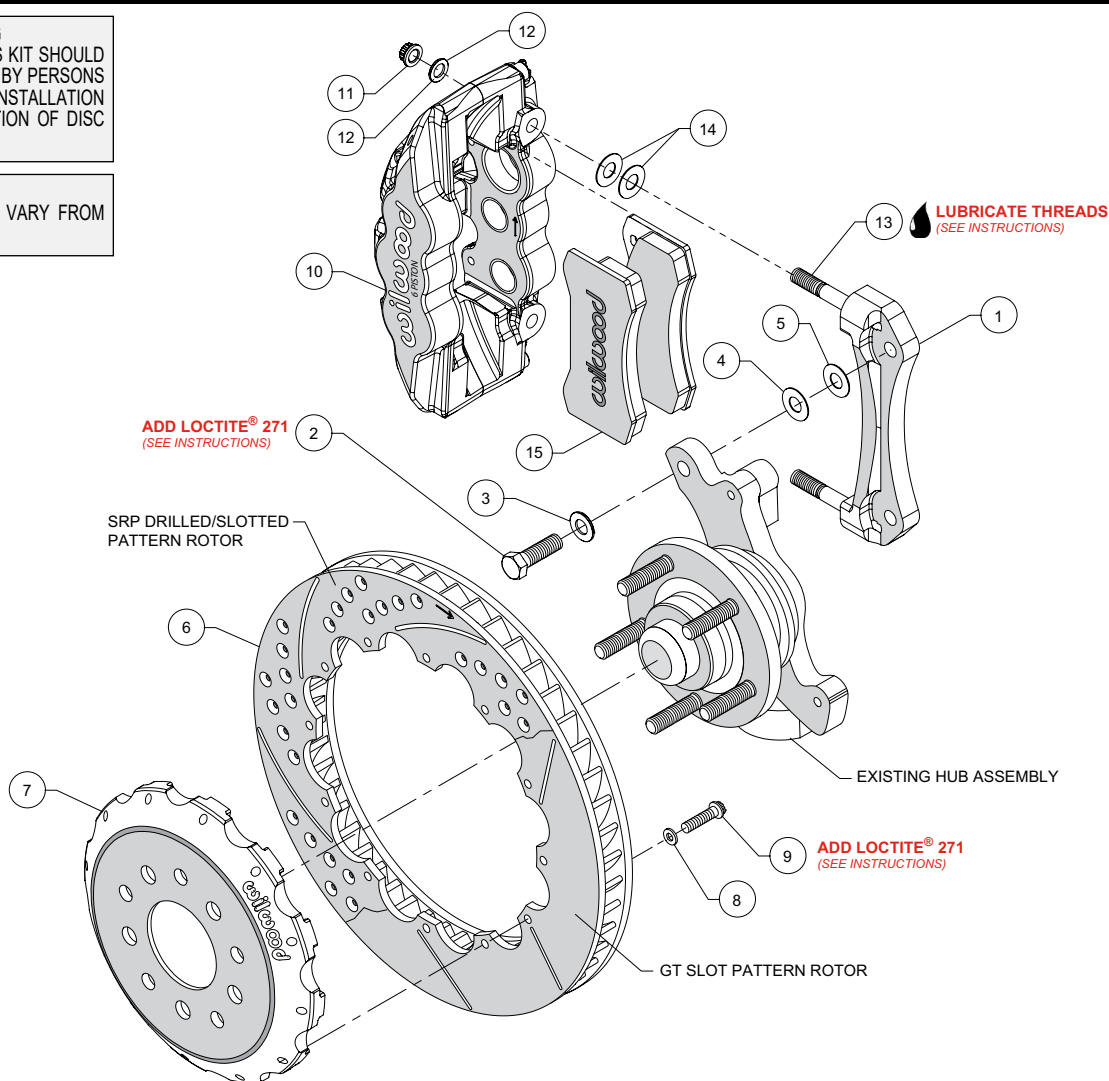
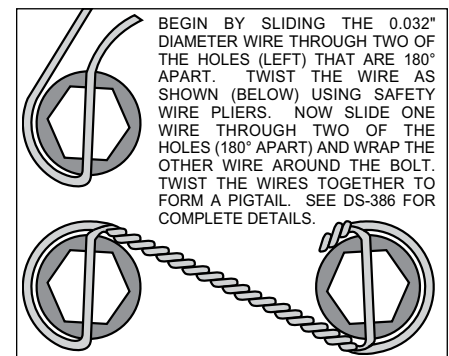

Figure 1. Typical Installation Configuration
Figure 4. Safety Wire Diagram
- The caliper mount bracket assembly (1) should be installed first with clean, dry threads on the mounting bolts. Install the bracket on the inboard side of the spindle by sliding bolt (2) through flat washer (3), and spindle ear from the outboard side of the spindle. Place two shim washers (5) between the bracket (1) and the spindle (see figure 1). The bracket must tighten squarely against the inboard side of the modified caliper mount bosses on the spindle body. Inspect for interference from casting irregularities, machining ridges, burrs, etc. Later, after the caliper, pad, and rotor alignment has been checked, and any necessary shims have been put in place, the mount bolts should be coated with red *Loctite*® 271 and torqued to 60 ft-lbs.
- With the larger I.D. side of the rotor (6) facing away from the hat (7), bolt the rotor (6) to the hat (7) through the backside of the rotor using washers (8) and bolts (9) provided in the configuration pictured in figure 1. Apply red *Loctite*® 271 to the bolt threads and torque to 155 **in-lb** using a criss-cross pattern. For an added measure of security, the bolts may be safety wired using standard 0.032 inch diameter stainless steel safety wire as shown in Figure 4. Please refer to Wilwood's data sheet DS-386 (available at [www.wilwood.com/Pdf/DataSheets/ds386.pdf](http://www.wilwood.com/Pdf/DataSheets/ds386.pdf)) for complete safety wire installation instructions.
- Lubricate caliper mounting studs (13) and nuts (11) with lightweight oil. Install two shims (14) over each stud (13) on the radial mount bracket. Slide the caliper (10) in place over the studs and rotors and install the washer (12) and lock nut (11) to hold the caliper in place. The caliper bleed screws should be pointing up. Snug the lock nuts (11) and check that the rotor (6) is centered in the caliper (10). Add or subtract shims (4 and/or 5) as necessary between the mounting bracket (1) and the spindle to center the caliper (10).
- Remove the two pad retaining pins from the caliper (10) by carefully popping out the pin retaining clips and sliding out the pins. Insert the brake pads (15) into the caliper from the bottom, Figure 1. With the friction material facing the rotor, secure the brake pads in place with the pad retaining pins and clips. Reinstall the caliper onto the caliper mounting bracket and temporarily tighten the lock nuts. Check that the top of the brake pad is flush with the outside diameter of the rotor. If not, adjust by adding or subtracting shims (14) between the caliper and the bracket.
- Once all clearances have been checked, remove the wheel, caliper, hat, and rotor from the spindle and hub. Secure the caliper mounting bracket (1) to the spindle using red *Loctite*® 271. Torque the bolts to 60 ft-lbs. Reinstall the hat and rotor assembly and again use three lug nuts to hold it in place. Reinstall the caliper, torque the caliper nuts (11) to 30 ft-lbs.